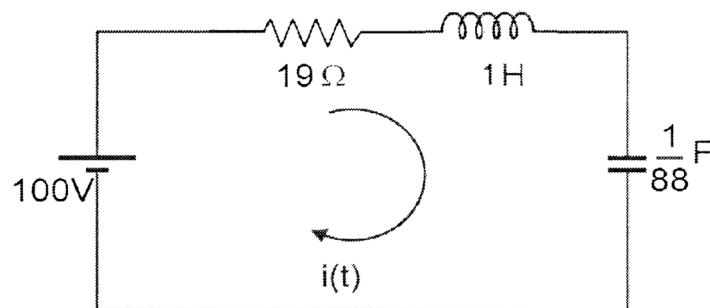

Fig. No.2
- Q2)** a) A series R-L-C circuit shown in fig. No.2, find current $i(t)$ using conventional method. The switch is closed at $t = 0$. [10]